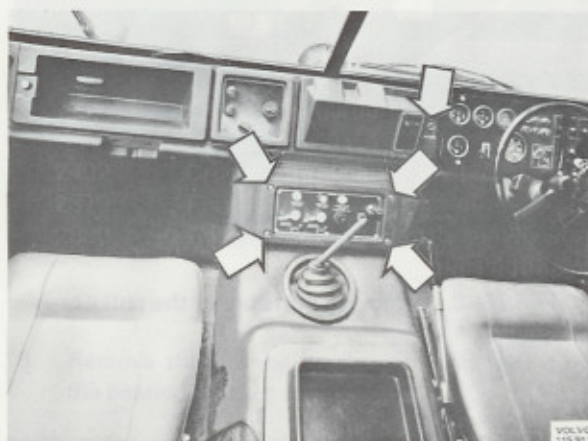

Fig. 26-7. Removing the cover over the radiator and the panel for the diff. lock controls
1. Remove the lower radiator pipe clamps (2) from the side member.
3. Remove the cover on the dashboard (part with ashtray) and the panel for the diff. lock controls, Fig. 26-7.